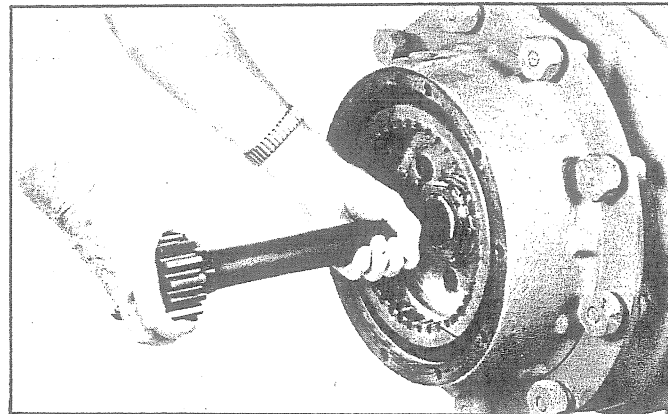

Fig. 4 - Removing or Installing Sun Gear and Axle
4. Remove sun gear and axle as an assembly as shown in Fig. 4.
8. Install axle shaft and sun gear as shown in Fig. 4.